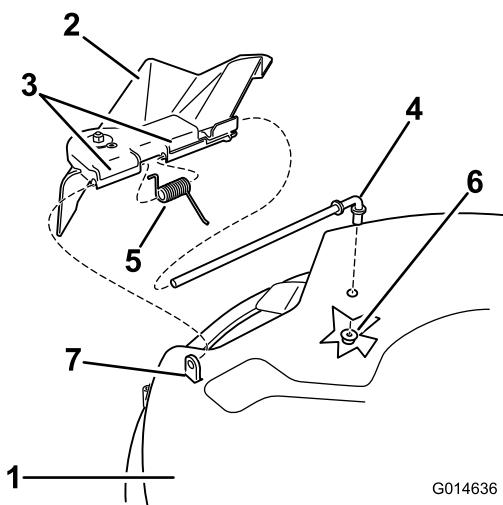

Figure 61
1. Remove the nut (3/8 inch) from the rod under the mower (Figure 61).
2. Slide the rod out of the short stand-off, spring, and grass deflector (Figure 61).
4. Replace the grass deflector (Figure 61).
7. Slide the rod through second grass deflector bracket (Figure 61).
9. Secure the rear end of the rod into the mower with a nut (3/8 inch) as shown in Figure 61.